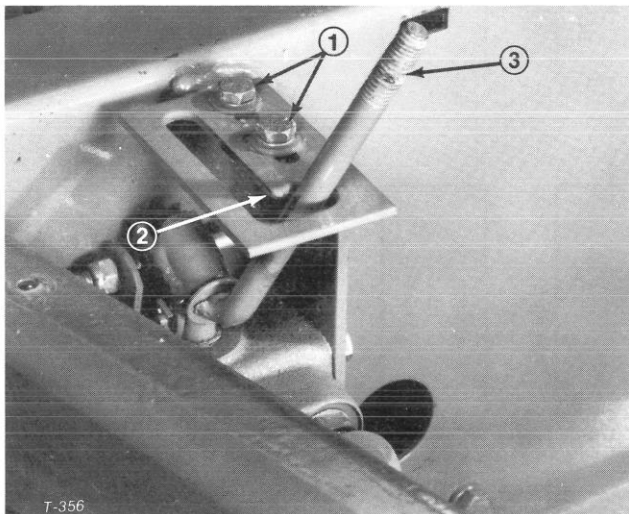

Figure 64
3. Loosen two capscrews on top of the lift lever latch (Fig. 64). Place lever on rounded tip of latch (Fig. 64), and slide latch w/lever forward until stopping resistance is felt. Then tighten the capscrews to lock the latch in place. Check for free operation of the lift lever by moving lever from RAISE or TRANSPORT to FLOAT position. Lift lever should just clear rounded portion of latch as lever is moved into FLOAT position.